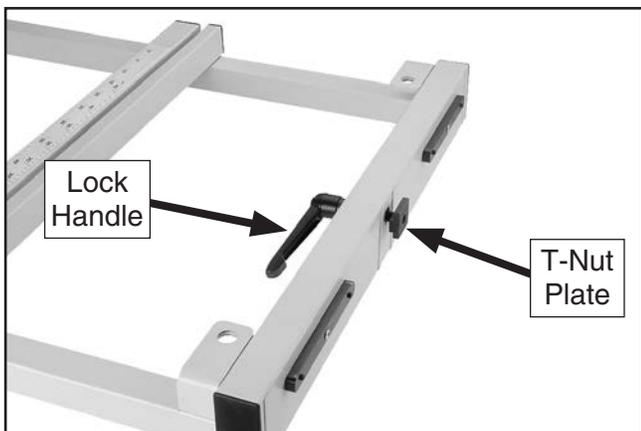

Figure 43. Crosscut lock handle installed.
48. Insert the M12-1.75 x 55 lock handle with a 12mm flat washer through the middle hole of the crosscut table, as shown in **Figure 43**, then loosely thread it into the T-nut plate.